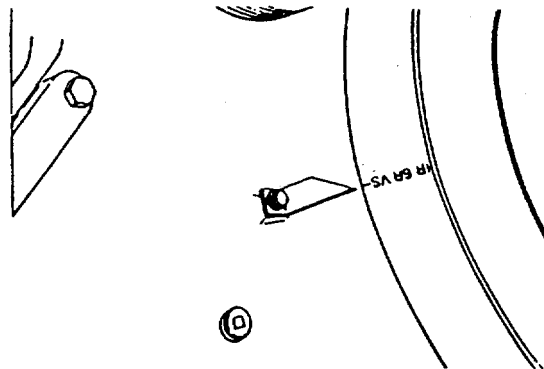

FIGURE 2-35. Intake and Exhaust Valve Location.
- (3) The KTA50 engine has valve and injector adjustment marks in three locations.
- (a) Adjustment marks are on the vibration damper (FIG. 2-35). The marks must be aligned with pointer.